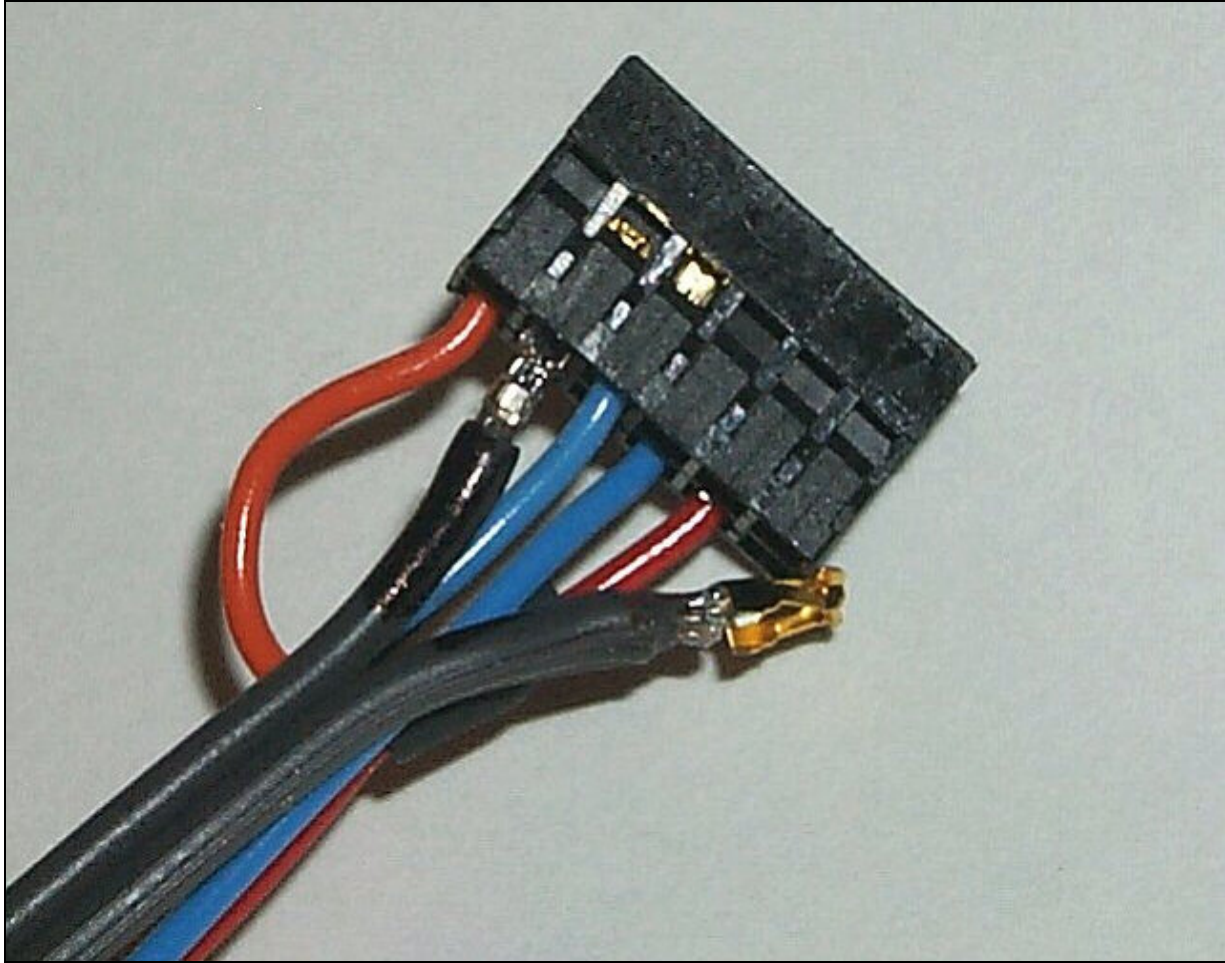
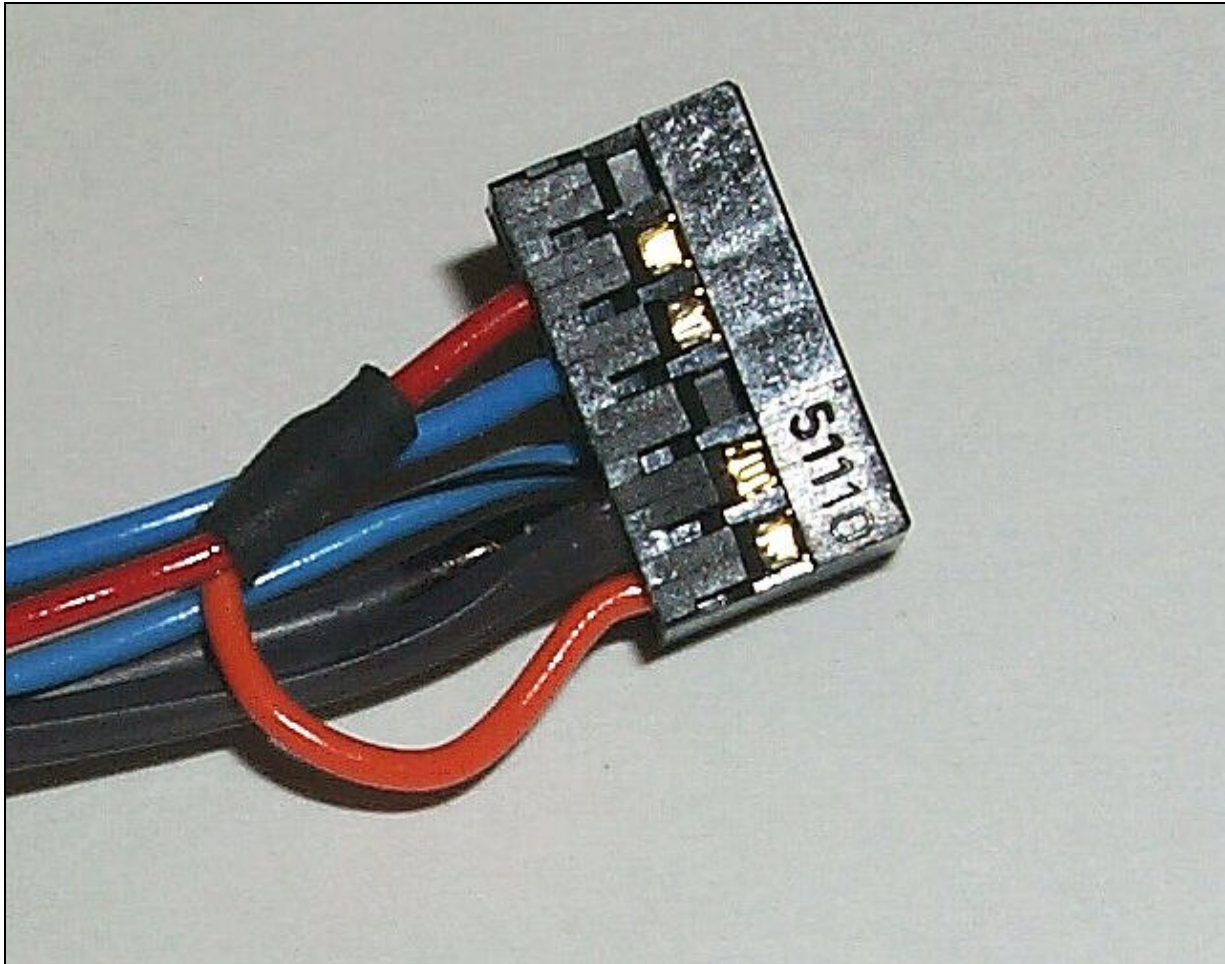

Figure 2 – Inserting the Negative Receptacle
Figure 4 – Installation of the Receptacles Complete
Pull the top most header plug away from the grip so you have complete access to it. Orient the plug in the same position as shown in figure 2. There are two rows of sockets. We will be dealing with the top row (of each side) when installing the receptacles.
If everything has gone well, the top header connector will look the one pictured in Figure 4. **NOTE: The header connector pictured in Figures 2, 3, and 4 is from a Ground Zero (GZ) model that does not have the membrane switch connections.**